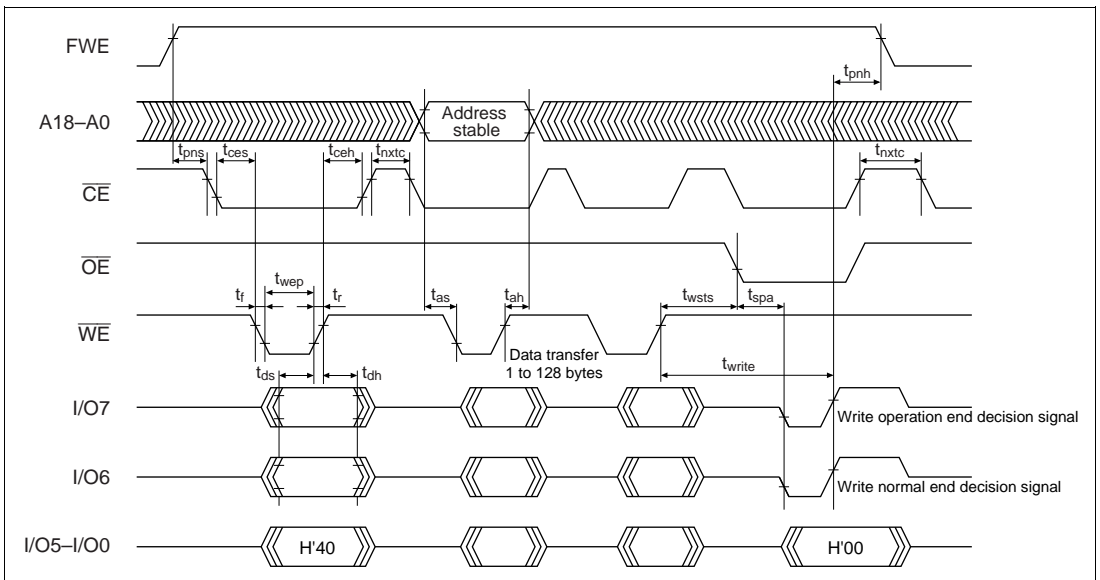

Figure 17.25 Auto-Program Mode Timing Waveforms
4. Memory address transfer is performed in the second cycle (figure 17.25). Do not perform transfer after the third cycle.